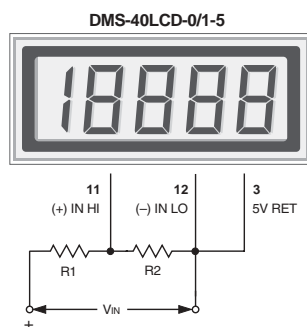

Figure 4. Input Attenuation Circuit
- 3. Engineering Scaling:** For measuring voltages greater than the full scale input range of a given meter, the input signal must be attenuated. A simple voltage divider (similar to that shown in Figure 4) will scale the input to within the range of the selected meter. R1 and R2 should be precision,  $\pm 1\%$ , metal film resistors with absolute TCR's less than 50ppm/°C. See Ap Note 4 for more information on engineering scaling.